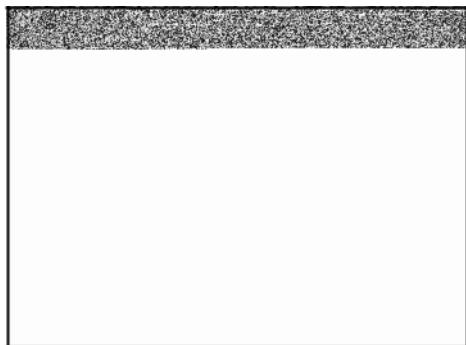

Figure 40
4. With battery fully charged, check specific gravity readings of each cell with a temperature-compensated Battery Hydrometer (Figure 40). All readings should be above 1.250 (compensating for temperature). If specific gravity readings vary by .050 or if all cells read less than 1.225, replace battery.